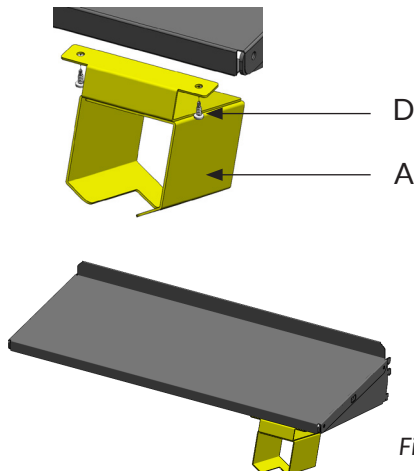

Fig 2
- 2 Mount the power tool holder assembly (A) to the underside of SHXX30 shelving using two #8 x 1/2" Phillips pan head self-drilling screws (D) (Fig 2).